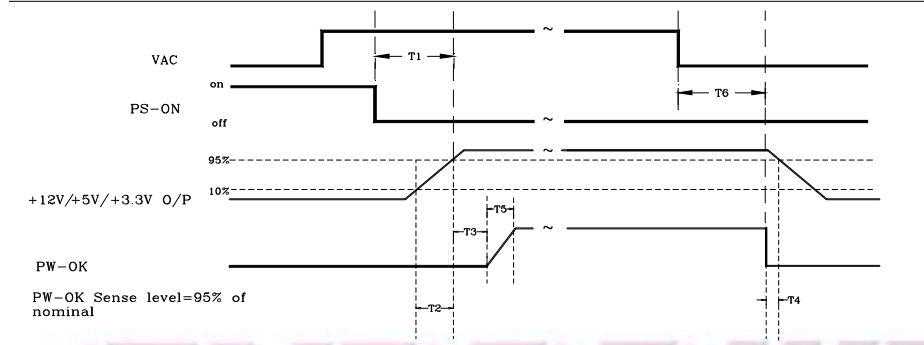

Figure 4. PS-OK Timing Sequence
Figure 4 is a reference for signal timing for main power connector signals and rails.
4.2 Hold up time (T6 of figure 4.)